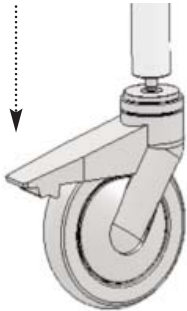

Figure 23
**B Caster Wheels:** When transferring into the chair, out of the chair and sliding the user from the roll-in section into the tub section, all four castor wheels should be securely locked in place. Failure to do so could cause the chair to become unstable (Refer to Figure 23).